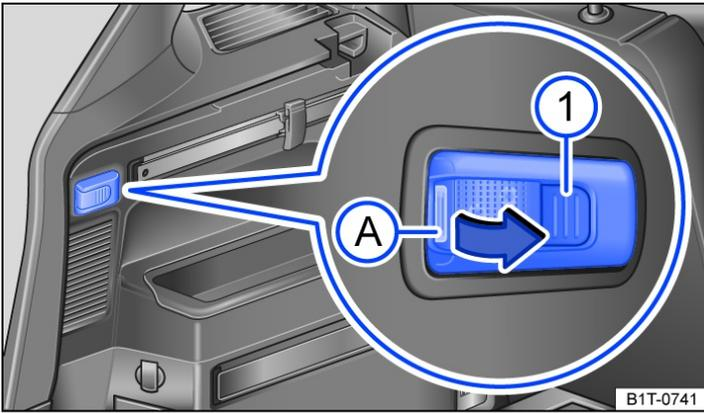

Fig. 1 In the luggage compartment (left-side): Removable luggage compartment light.
Depending on the vehicle equipment, there is a removable light in a bracket in the luggage compartment → *fig. 1*. When fitted, the removable luggage compartment light acts as a luggage compartment light.
1. Take hold of the removable luggage compartment light in the → *fig. 1* ① area.